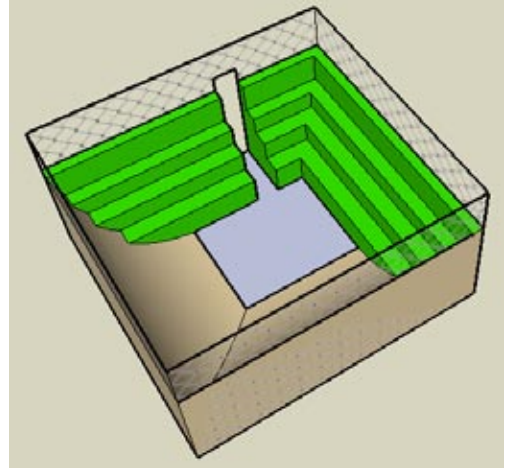

Figure 4-61
16. Move the ramps and steps back inside, intersect them, and trim away the entrance. To cut a hole in the fence, edit the fence group and add a tall rectangle for an opening. Then erase the opening face. Figure 4-61 shows the result.